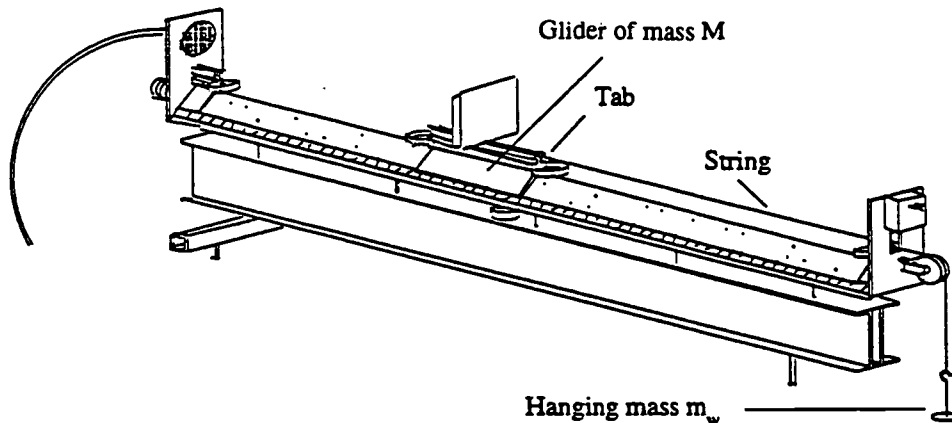

Figure 2: Set-up for Part II
1. Attach the hook on the thread to the metal tab on the glider, pass the thread through the hole in the transducer mounting plate, and then over the pulley at the end of the air track. Finally, attach the mass  $m_w$  (mass hanger and mass disks) to the thread loop. The set-up for this part of the experiment is shown in Figure 2.